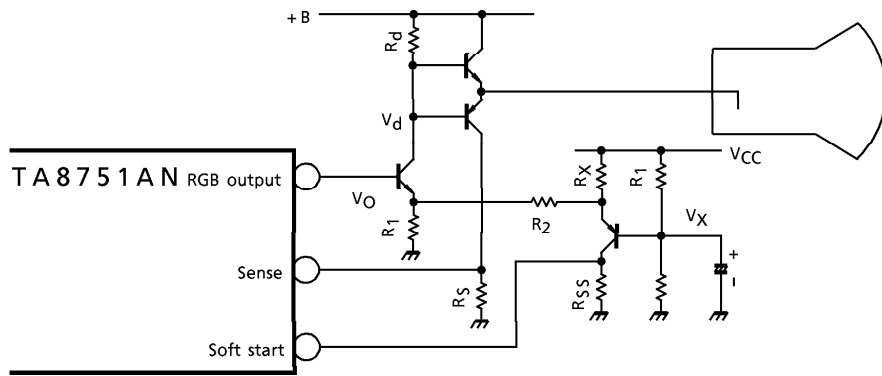

Fig.4 Basic structure of CRT drive circuit
- (1) The basic structure of the CRT drive circuit is shown in Fig.4.
- (2) Drive circuit gain : G is defined by the formula :